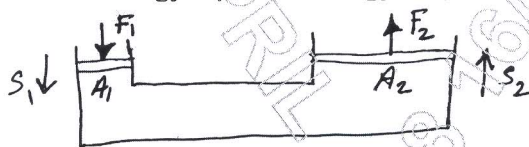

Fig.Q1(c)
- c. For a simple hydraulic jack the following data is given  $F_1 = 100 \text{ N}$ ,  $A_1 = 50 \text{ cm}^2$ ,  $S_1 = 10 \text{ cms}$ . Find load  $F_2$  and displacement  $S_2$  if area of piston that is to be lifted is  $500 \text{ cm}^2$ . Also find energy input and energy output. [Refer Fig.Q1(c)]